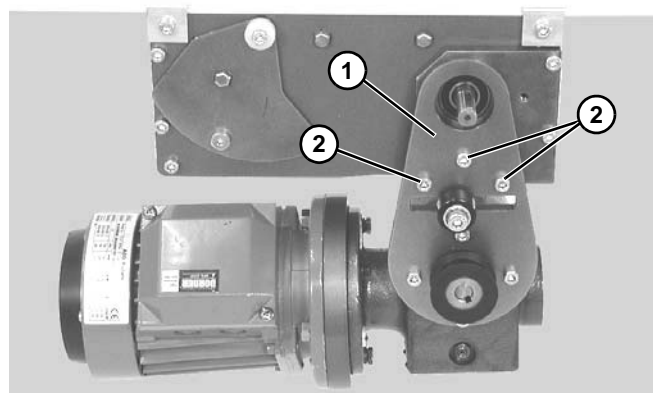

Figure 8
4. Attach mount assembly (**Figure 8, item 1**) with mounting screws (**Figure 8, item 2**). Install long screws on bottom. Tighten screws to 80 in-lb (9 Nm.).